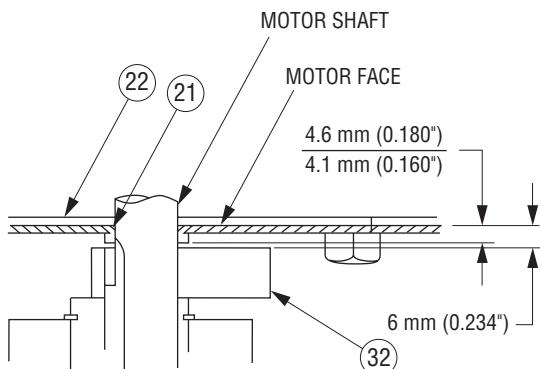

Figure A1 (8)
The counterweight needs adjustment.	See "Motor Face Seal" and Figure A1 for the correct setting of the counterweight.
When reassembling the motor, refer to Figure A1 for the face seal seating dimension. Also, refer to this figure for setting the vertical position of counterweight (32).